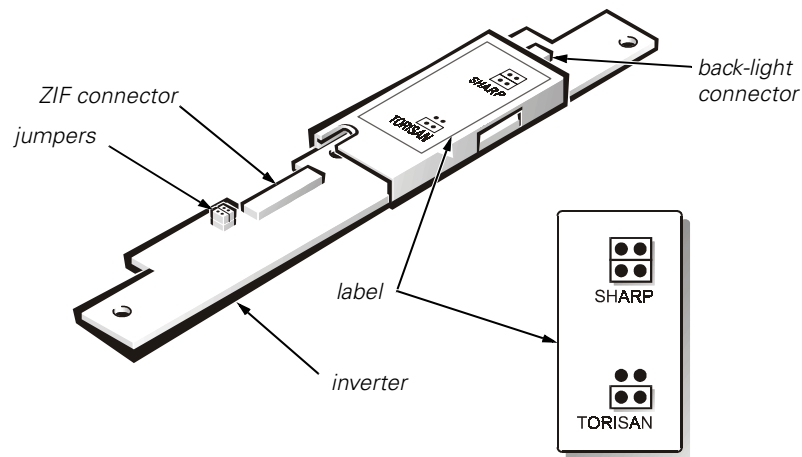

Figure 17. 12.1-Inch LCD Inverter
2. Ensure that the inverter's configuration jumpers are set correctly (see Figure 17).